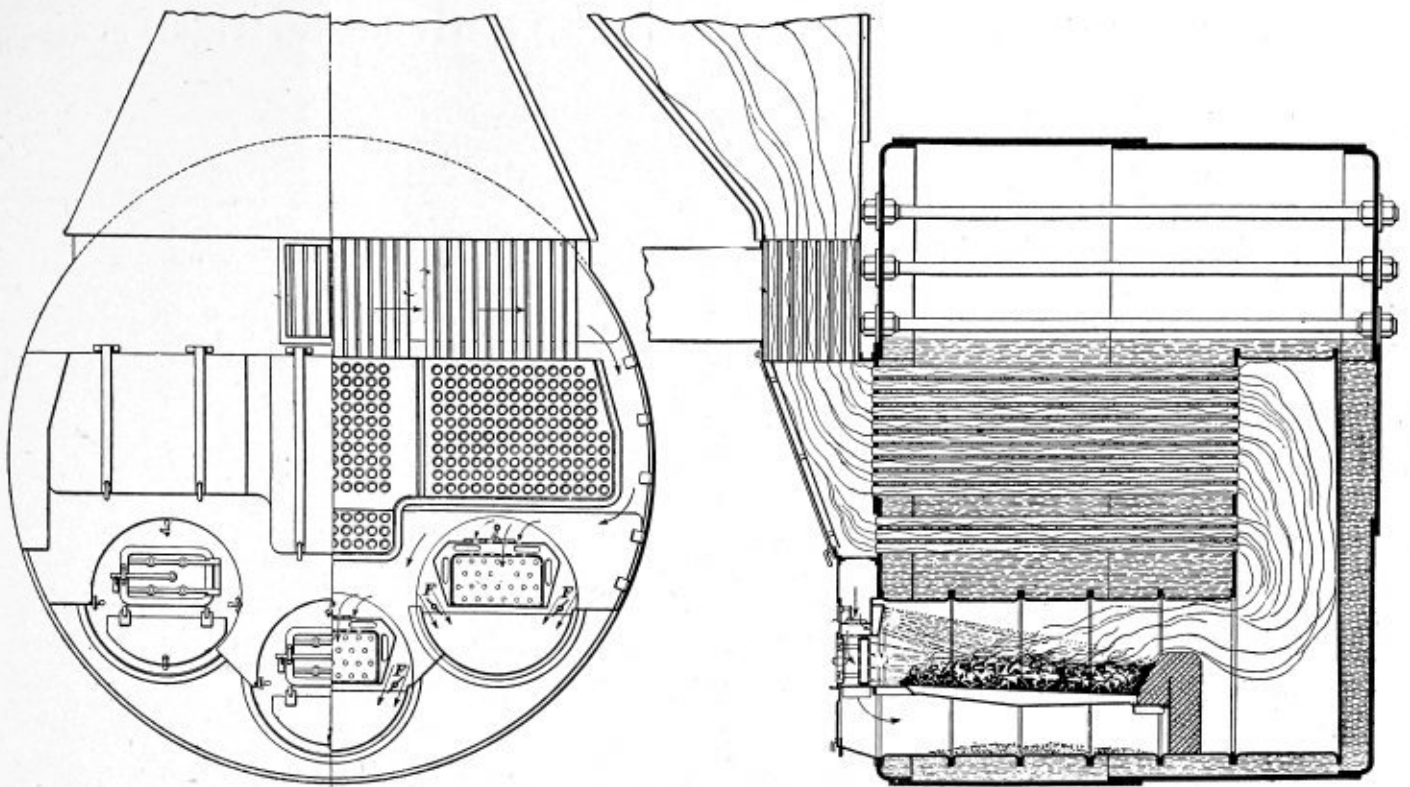

Fig. 1.—Scotch Boiler with Flanged Ring Furnaces
Q.—(1) Explain the construction of a furnace of a Scotch boiler. How is it secured to the boiler and how may furnaces be removed and replaced?
(2) Explain how to get out and replace a front cross box on a Babcock & Wilcox boiler.
(3) How is a leaky tube plugged in a Scotch boiler and in a water-tube boiler?
(4) Make up a bill of material to replace an evaporator shell, giving general dimensions.
A.—(1) A Scotch boiler is shown in Fig. 1. Boilers of this kind have a cylindrical shell containing one or more cylindrical furnaces. These furnaces are made either of short sections that have their flanged ends riveted together with stiffening rings between them, or a furnace is made of a single tube corrugated, so as to give the necessary strength to prevent collapsing. One end of the furnace is riveted to the front head of the boiler, either directly or by means of a flanged ring, and the rear end is riveted to the combustion chamber that serves